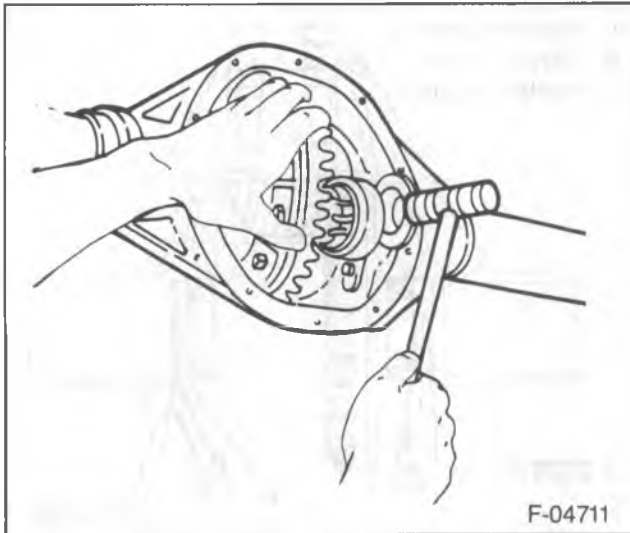

Figure 23—Installing the Final Preload Shim
1. Install the differential case, bearing cups, spacers, and shims as determined from the "Side Bearing Preload Adjustment" earlier in this section (figure 23).